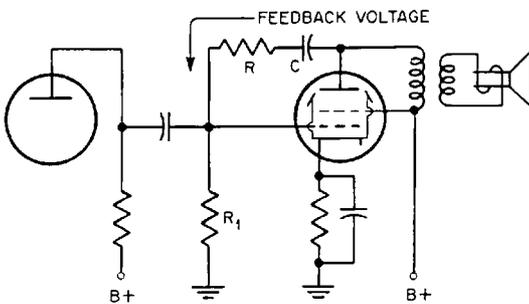

Fig. 39-16. Circuit showing inverse feedback in the audio-frequency amplifier. The values of R and  $R_1$  determine the amount of feedback.
**Inverse Feedback.** In Chap. 16 we saw how some of the output voltage was fed back to the input circuit of the tube to be reamplified, and thus give us a greater output. We called this *regenerative feedback*. Now it is possible to feed this voltage back in such a way that it does not aid, but tends to cancel, the signal input. The feedback is then out of step ( $180^\circ$  out of phase) with the incoming signal. We call this *degenerative* or *inverse feedback* (also known as *negative feedback*). Such feedback is of no value to us in the regenerative detector, but it is frequently used in audio-frequency amplifiers to reduce distortion. Figure 39-16 shows such a circuit.